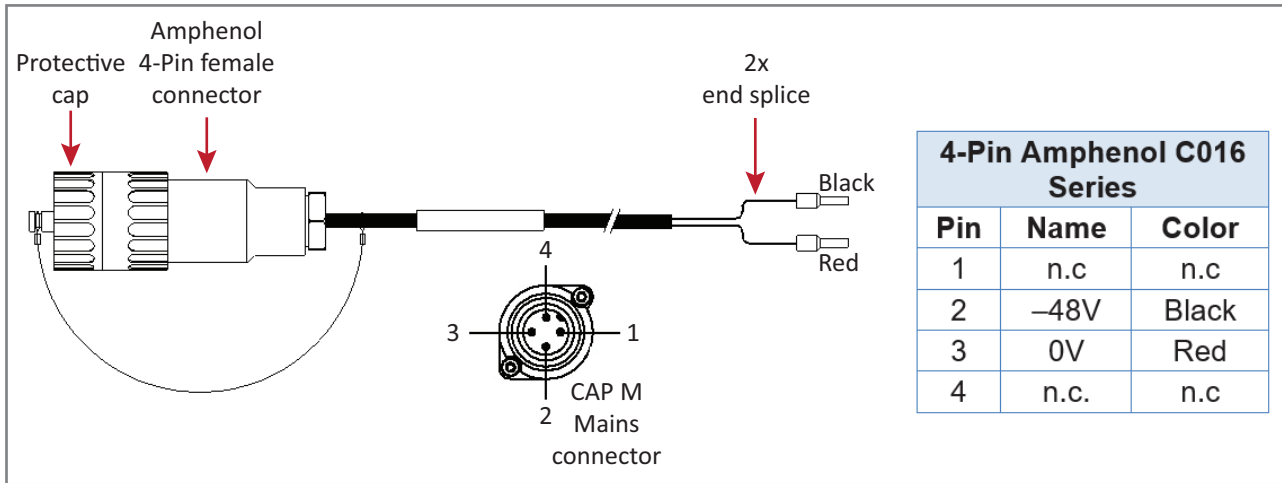

Figure 8. CAP M2 DC Power Cable
- Figure 8 on page 39 for the DC power cable.